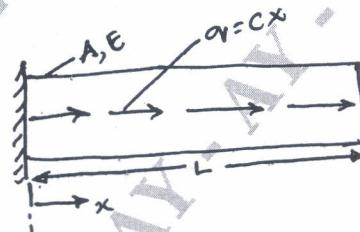

Fig Q1(b)
- b. A bar of length L, cross section area A and modulus of elasticity E, is subjected to distributed load $q = CX$, where C is constant as in Fig Q1(b). Determine the displacement of bar at end using R-R method.